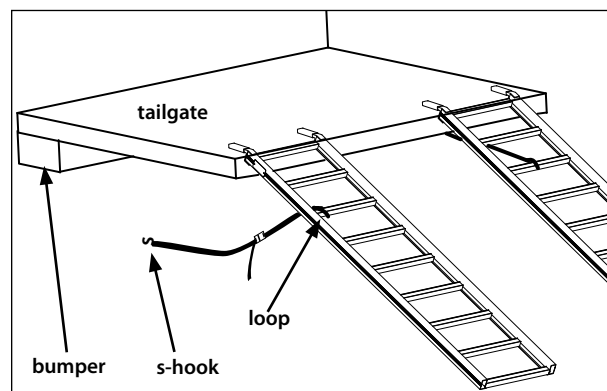

Figure 1
1. Attach the two provided securing straps to the third cross tread from the tailgate end (one on each ramp). Wrap the loop end of each strap around the cross tread and thread the buckle and "S" hook end thru the loop. This permanently attaches straps to the ramp. **SEE FIGURE 1.**